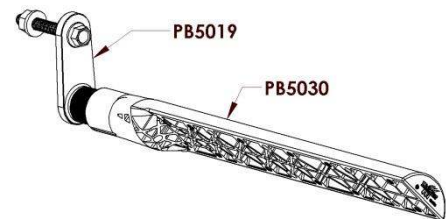

Figure 4
- B. Insert the PB5030 Paddle Bracket onto a PB5019 swivel bracket as shown in Figure 4.